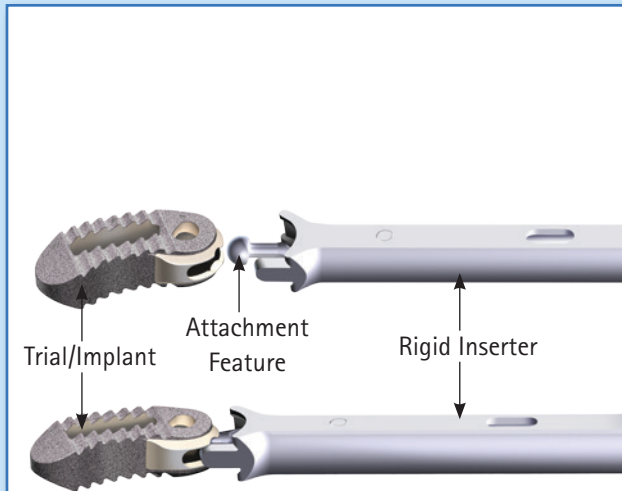

Fig. 14 - Mounting the implant/trial onto the attachment feature of the insertion instrument
- b. Mount the trial/implant onto the attachment feature of the insertion instrument (Fig. 14).